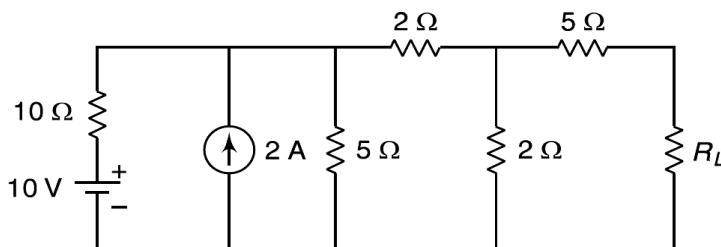

Fig. 2
2. Determine the value of R_L in the circuit in Fig.2, for which maximum power will be transferred to R_L . Also determine the maximum power.